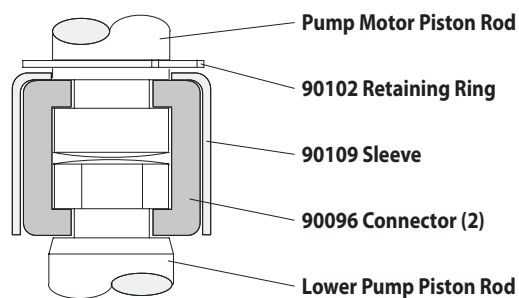

Figure 2
4. Using e-ring pliers, slide the retaining ring up far enough to allow the sleeve to move upward and release the two connectors (see figure 2).